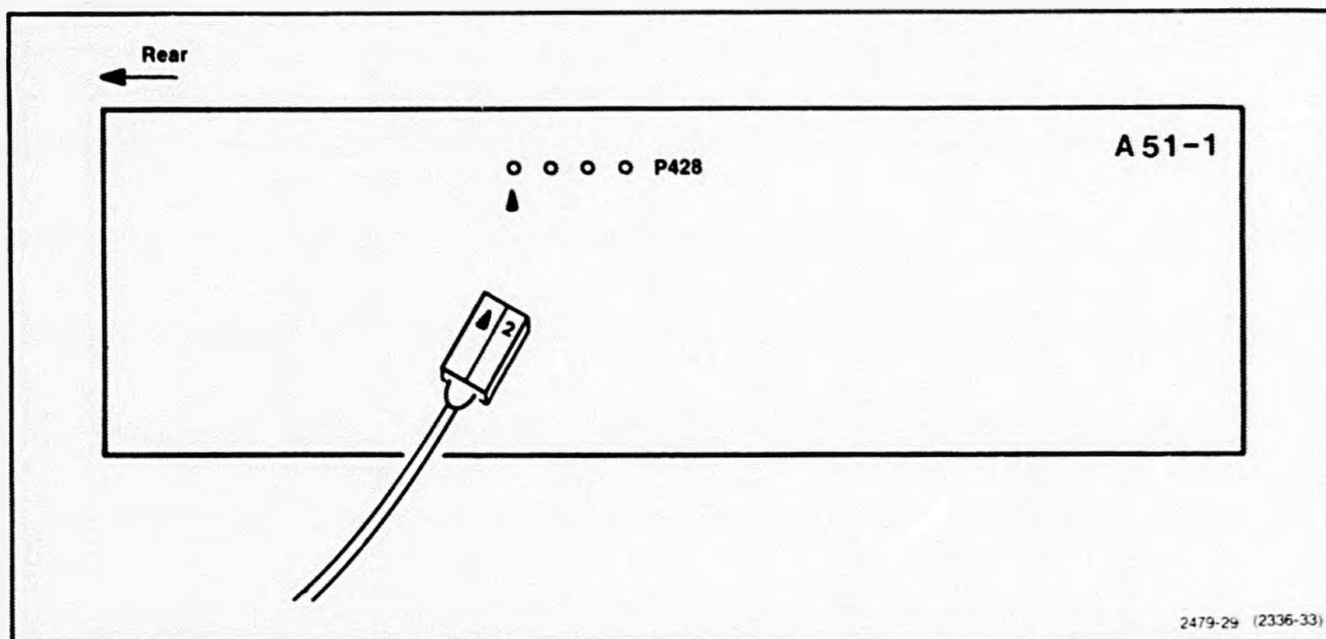

Fig. 3-3. Module output connector and P428.
7. Connect the coaxial cable from the appropriate rear-panel MODULE Output connector to the board output connector, P428. See Fig. 3-3.